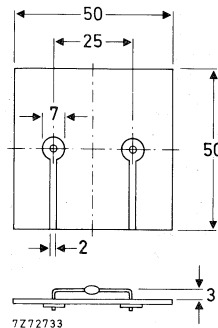

Fig. 2 Mounted on a printed-circuit board.
2. Thermal resistance from junction to ambient when mounted on a 1,5 mm thick epoxy-glass printed-circuit board; Cu-thickness  $\geq 40\text{ }\mu\text{m}$ ; Fig. 2 (see "Thermal model")